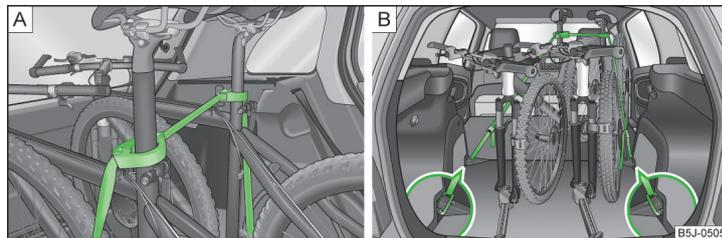

Fig. 76 Securing bicycles
- › Position the clamp with the rubber part to the front (in direction of travel) as low down on the seat post as possible and lock it » Fig. 76 - **A**.
- › When transporting two bicycles, stretch the belt » Fig. 76 - **A** between the saddles by moving the bicycles apart.
- › Hook the carabiners on the ends of the belt into the lashing eyes behind the rear seats » Fig. 76 - **B**.